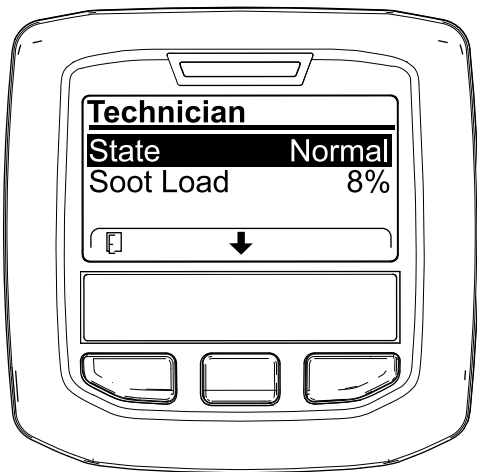

Figure 35
- Use the DPF operation table to understand the current state of DPF operation (Figure 35).